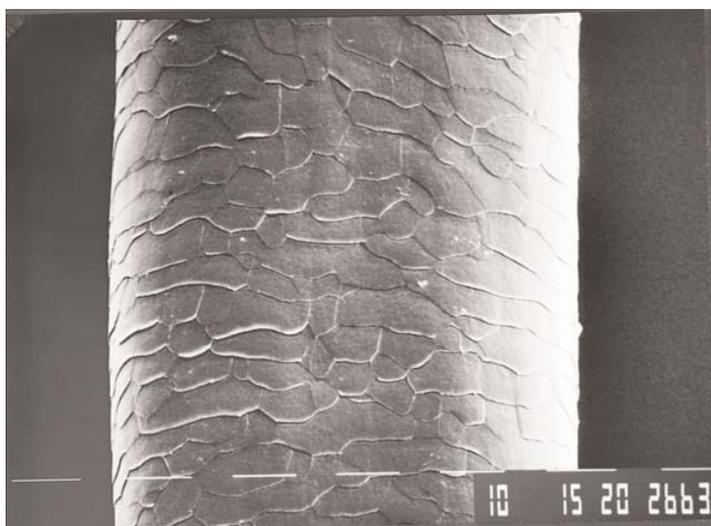

Figure 2: Scanning Electron Micrograph of hair
The outermost layer of skin, the stratum corneum (SC), is of particular interest to cosmetic scientists as this layer is the most influenced by cosmetic products. Hair is composed of a cylindrical cortex about 70 μm in diameter surrounded by an outer protective sheath of overlapping cuticle cells arranged like shingles on a roof (Fig 2). Both substrates are essentially made of a specific class of proteins called keratin, and also contain lipids and water. All these components show distinctive features in Raman spectra.